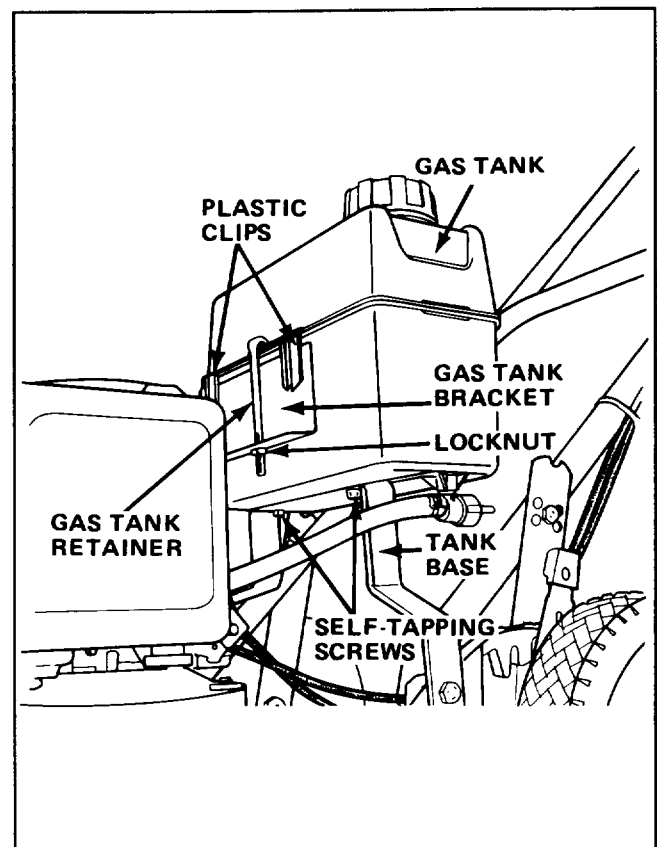

Figure 3
2. Hook plastic clips on rear of gas tank onto gas tank bracket (Fig. 3). Do not overtighten.
3. Secure gas tank to tank base with (2) self-tapping screws (Fig. 3).
4. Hook gas tank retainer onto gas tank and slide end of retainer into hole in tank bracket. Secure retainer to tank bracket with locknut (Fig. 3). Do not overtighten.